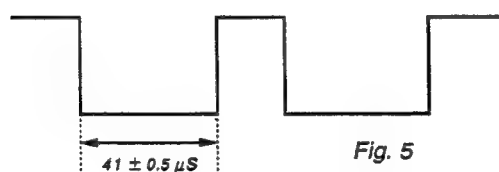

Fig. 5
- Connect the oscilloscope probe to IC503 Pin 7, then adjust **H DELAY** so that the waveform is as in Fig. 5.